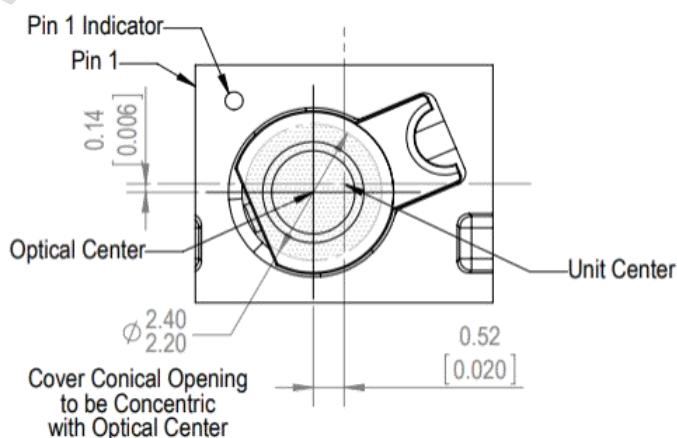

Figure 2. Chip Package's Top View
- Note:** the offset between optical center and unit center (refer to Figure 2)